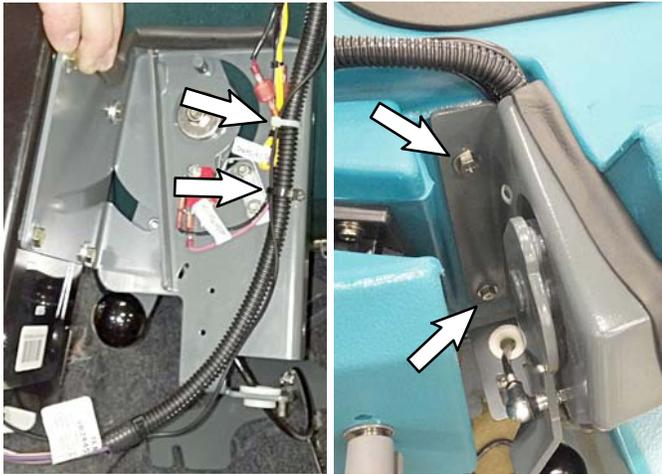

FIG. 9
- Route the telemetry harness and antenna cable as shown and secure harness with cable-ties (6) (FIG. 9).
- Install new bracket assembly to machine using existing hardware (FIG. 9).